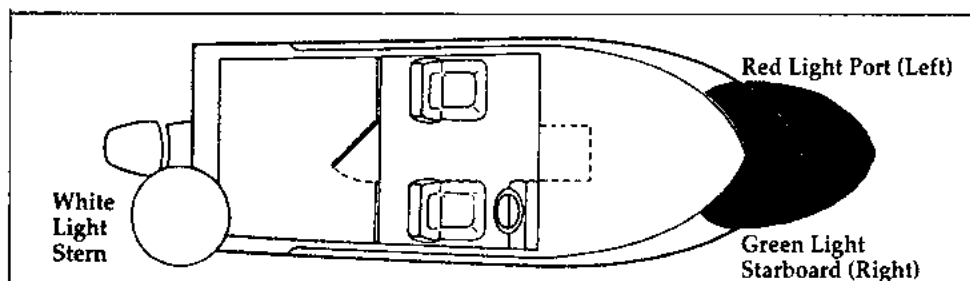
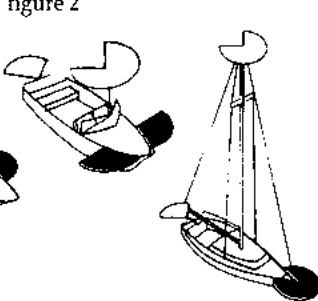

figure 1
figure 3
*Motorboat or sailboat using power on Great Lakes: The lighting arrangements in figure 7d may be used instead of the arrangements in figures 1 and 2.*
*Motorboats or sailboats using power: The lighting arrangements to figure 1, 2 or 3 may be used.*
*Motorboats or sailboats using power: The lighting arrangements to figure 1 or 2 may be used.*
The masthead light (forward white light in figures 1, 2 and 7d) must be at least one meter higher than the colored lights on a boat less than 12 meters in length and at least 2.5 meters above the gunwale on a boat 12 meters but less than 20 meters in length.
*Motorboat or sailboat using power, built before December 24, 1980: The lighting arrangement in figure 1, 2 or 3 may be used. However, the arrangement in figure 3 is not acceptable on a boat that is 12 meters or longer on international waters.*